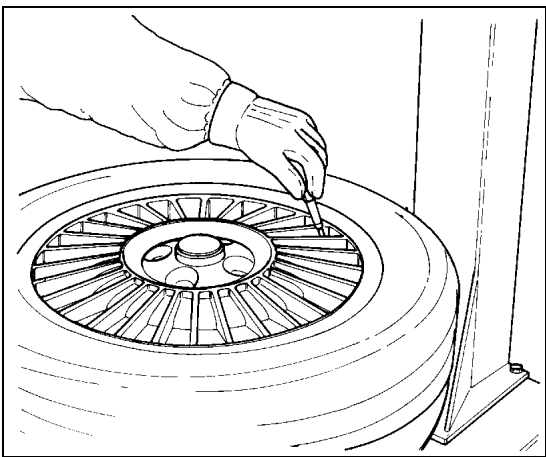

Fig.11
**A.** Remove all wheel-weights from the rim. Remove the valve stem or core and deflate the tire (Fig.11).